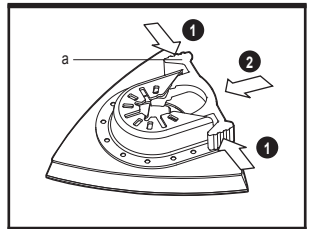

Fig. 6-2
If you use the vacuum cleaner tube (32mm), first connect it to the adapter (13) then insert into the access. (See Fig. 6-2)